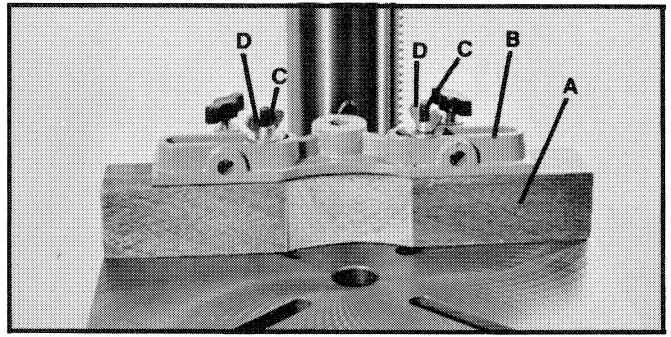

Fig. 11
1. Assemble the fence (A) and holddown bracket (B) to the drill press table using the two screws (C), four flat washers and two wing nuts (D), as shown in Fig. 11.